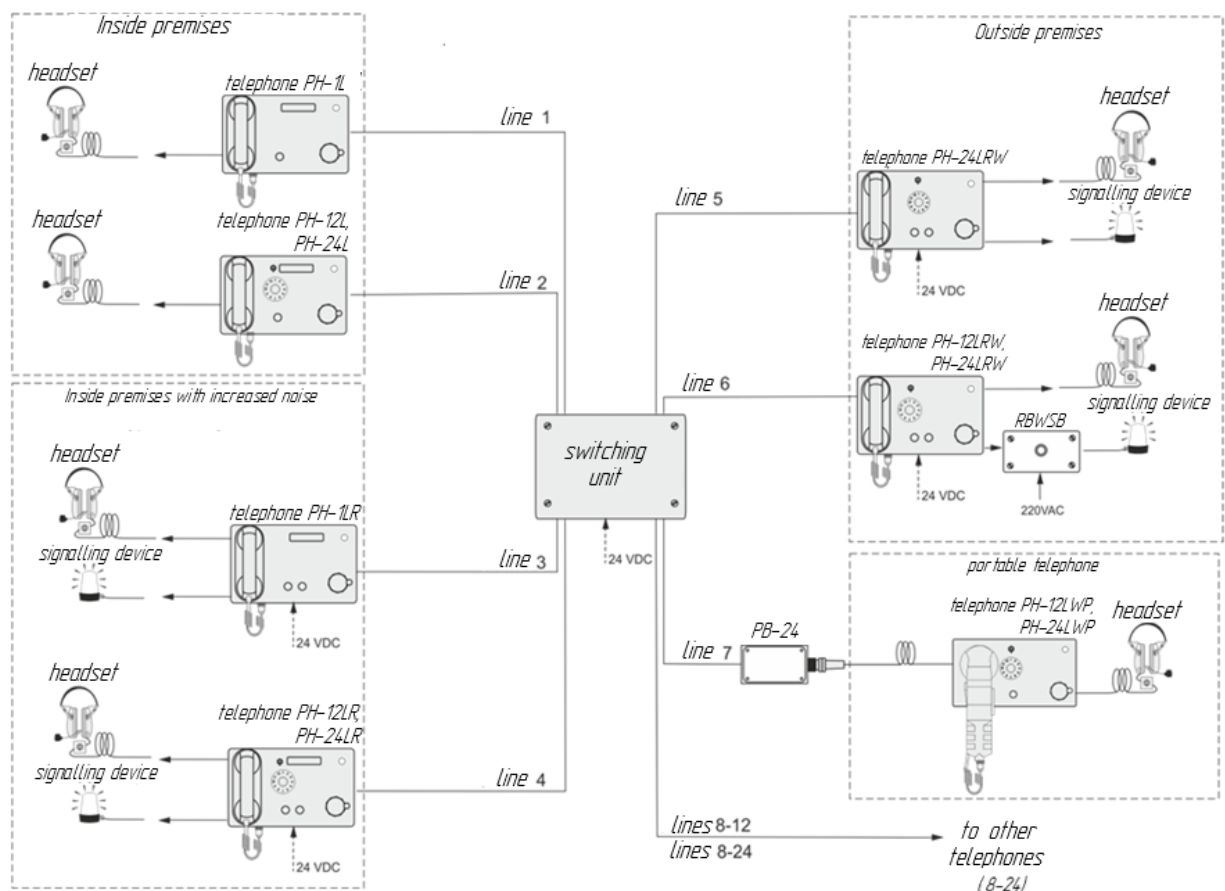

Figure 4 – Example of combined user network (based on switching unit)
c) combined networking (using any combination of commutator telephones and telephones) – to organize communication (pair and general list) of the main station within its group and users of other groups, see Figures 4 and 5.